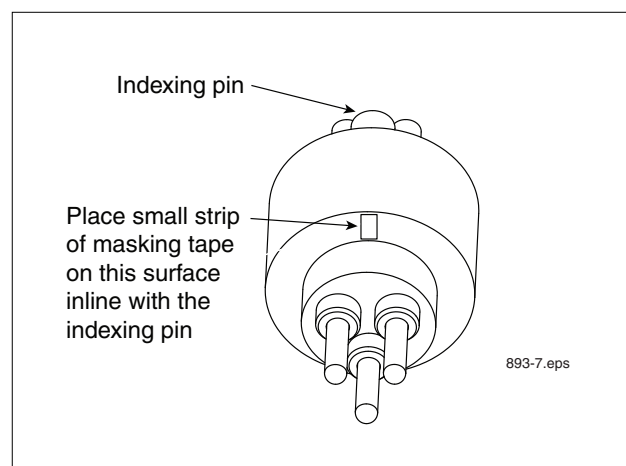

Figure 43. Placing Masking Tape Alignment Marker On Front Of Male Connector
17. Place a small piece of masking tape on the pins side of the connector inline with the indexing pin (see Figure 43).
10. Install mechanical leak detector (apply an adequate amount of fresh, UL classified for petroleum, non-setting thread sealant to the threads) onto the 2" NPT mechanical leak detector threads and orient it as shown in Figure 43.